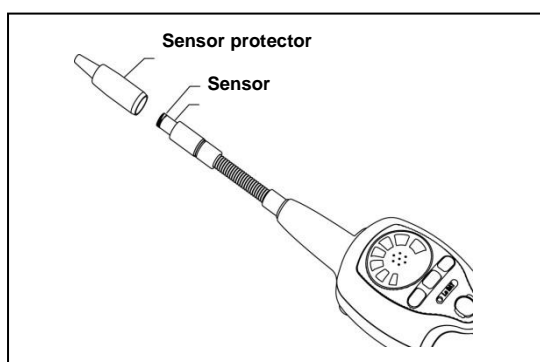

Fig.2
- (1) Remove cone cap cover from the tip of snake tube.
- (2) Pull out old sensor and insert the new sensor into the plug (see below fig.2).
- (3) Seal the cap cover over the plug.